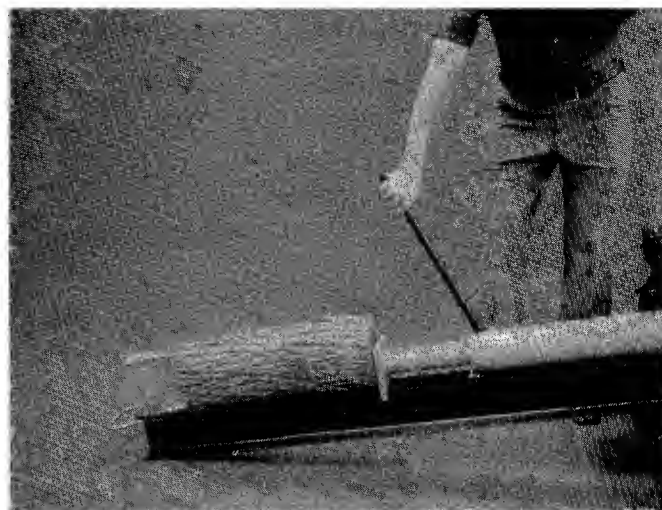

FIGURE 22
- F. Remove your hand from the log and step behind the ram. See figure 22.